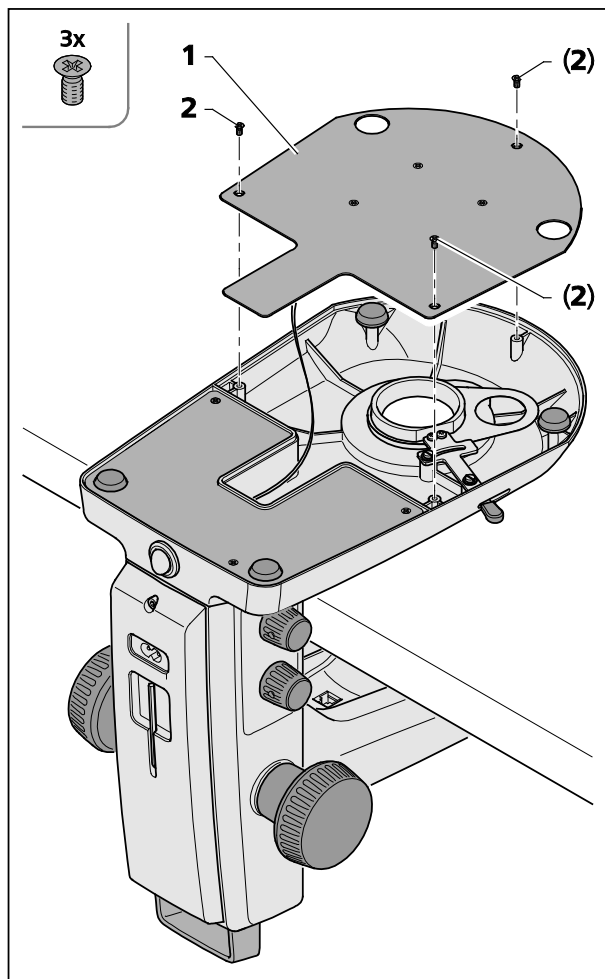

Fig. 28 Opening the stand cover plate,
The stand cover plate (Fig. 28/1) may be removed for cleaning or to remove any foreign matter which might fall in inadvertently.
- To this effect, release the three recessed head screws (Fig. 28/2), lift off the stand cover plate (Fig. 28/1) carefully and then put it aside.
- Make sure that the cable is not disconnected from the stand cover plate (Fig. 28/1).